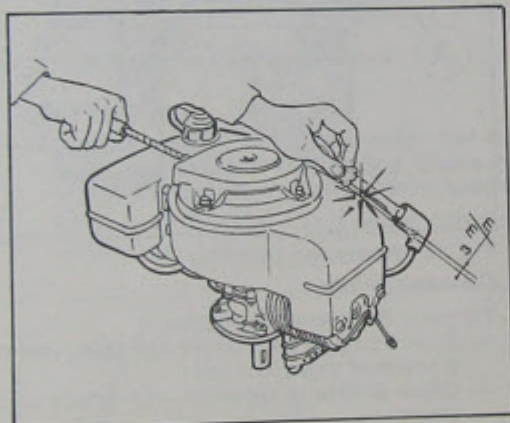

Fig. 8 Testing plug lead
- If spark does not jump or is weak or reddish in colour, disconnect plug and insert screwdriver into plug cap, hold screwdriver blade about 3 mm from a good earth on the engine and pull the starter (Fig. 8).